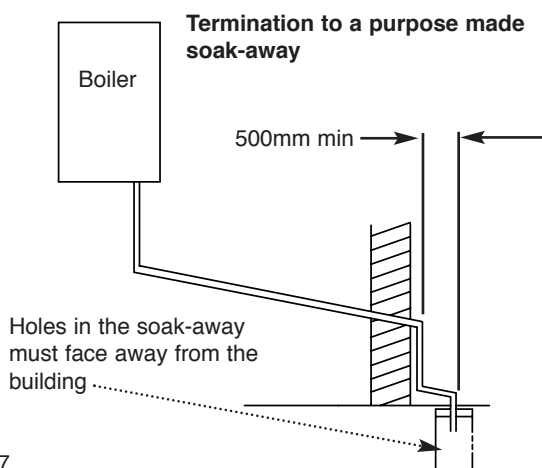

Fig. 7
- iv) to a purpose made soakaway - Fig. 7.